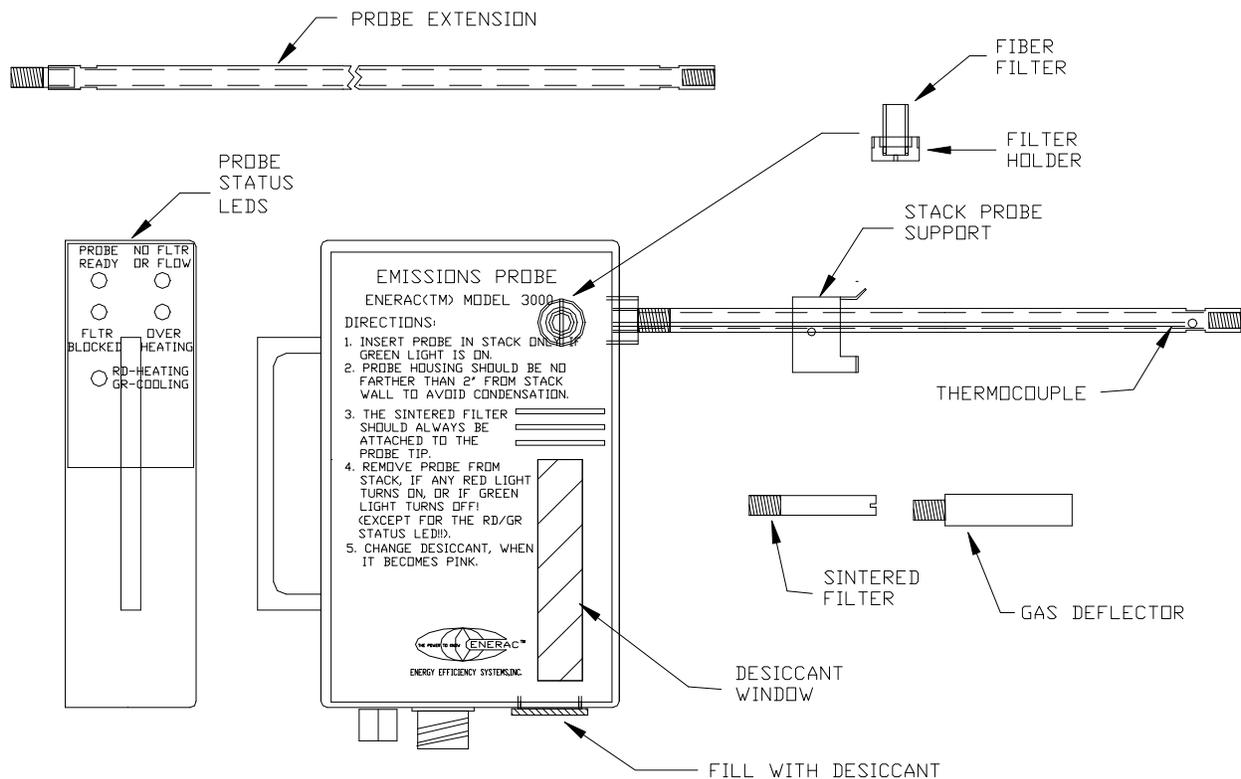

FIGURE 5
During operation, the metal tube of the probe (see fig.5) is inserted into the stack. A small pump located inside the analyzer draws a sample of the stack gases into the instrument for analysis. The probe assembly and the sensor housing are described below.
a. The secondary fiber filter. This is a small cylindrical 0.5 micron glass fiber filter for the removal of the finer particles from the gas stream. It is accessed from the side of the probe (see Figure 5). This filter should be replaced periodically.